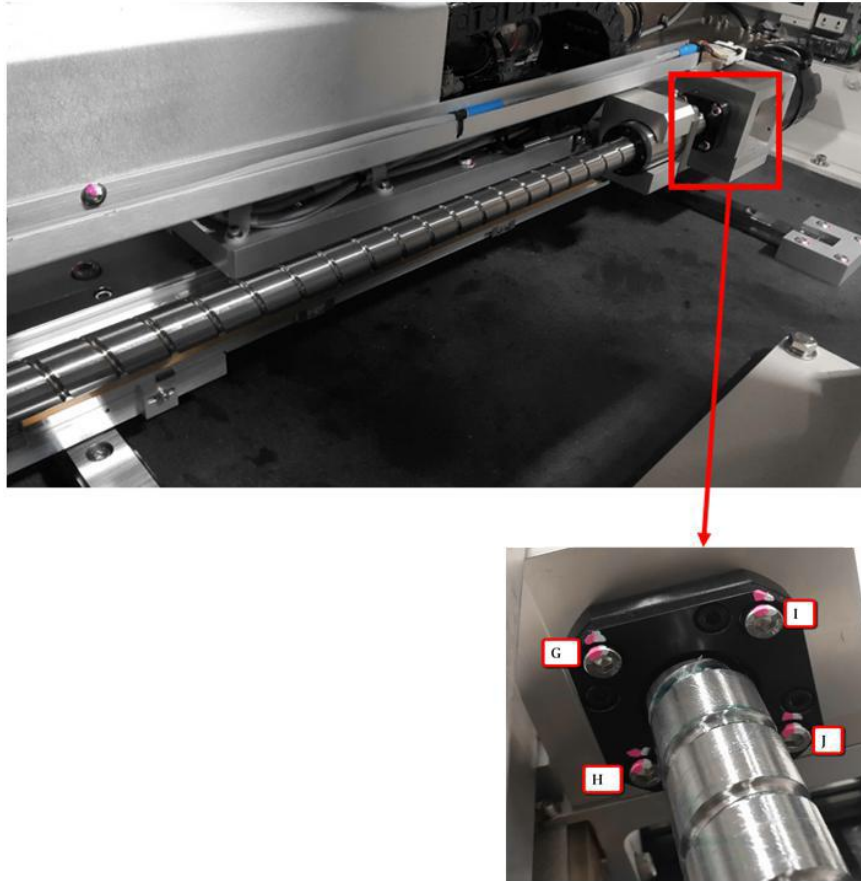

Figure 11 End support bearing
13. Push the X axis stage to the maximum hard stop (leave a small space for your Allen key to access the Bearing Support, Fixed) & tighten 4 screws at Bearing support, Fixed round as shown in Figure 11.